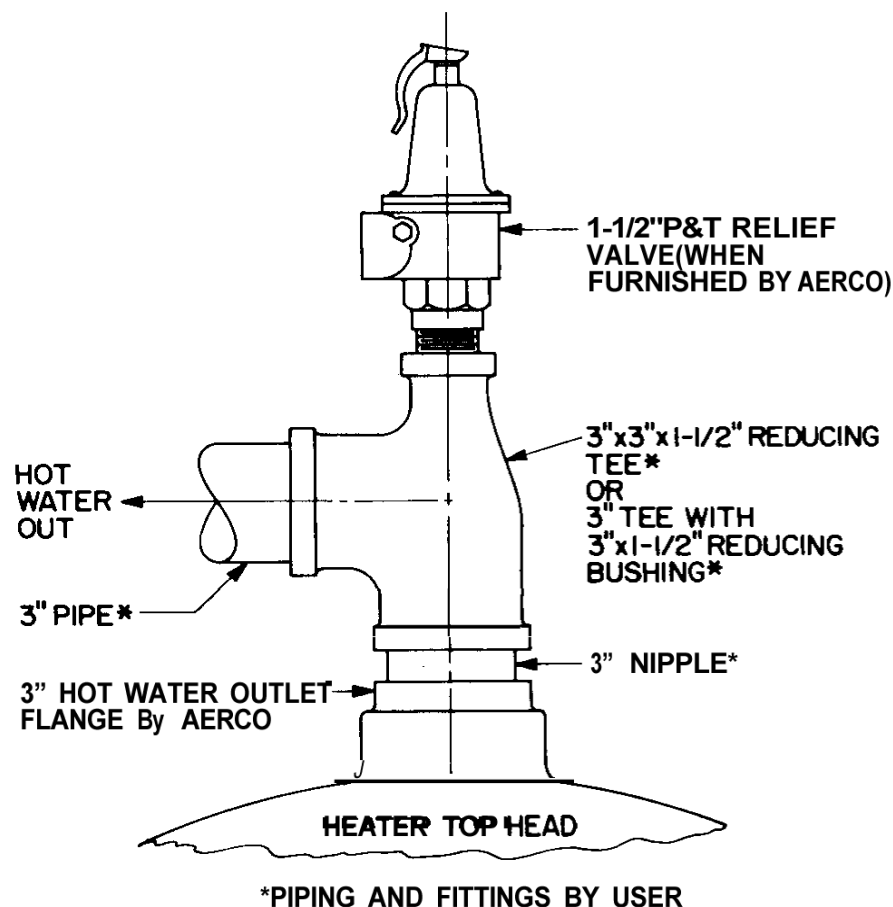

Figure 2 – P&T Relief Valve Located in the Heater Hot Water Outlet Piping
- Pressure & Temperature Relief Valves – size and number furnished as required in accordance with the design BTU output of the heater – first two located in the heater Top Head as shown in Figure 1a, 1b, 1c, and 1d. The third, if furnished, to be installed in the hot water outlet piping by the user as shown in Figure 2.
- 7) When a third P&T Relief Valve is furnished with the Heater (the first two furnished have been assembled in the top head of the Heater by AERCO), the third Valve is to be installed in the Heater hot water outlet piping, by the user, as illustrated in Figure 2.